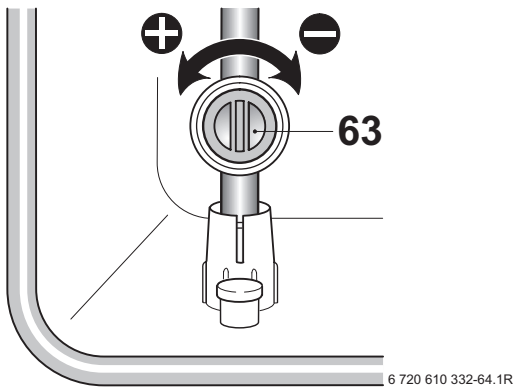

Fig. 47
- ▶ Adjust the gas flow restrictor (63) to obtain the CO₂ level given in Table 16. Refer to fig. 47.